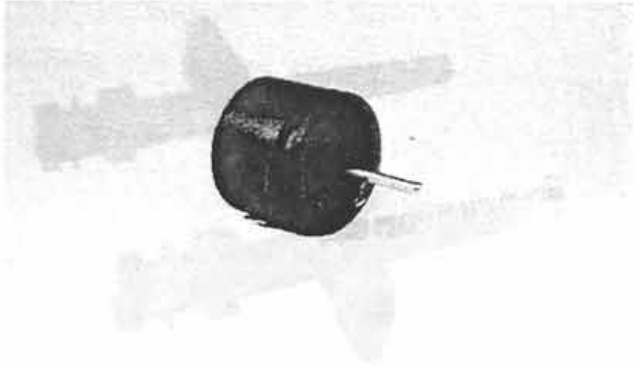

Figure 11:
3. Examine the piston assembly, and replace as an assembly if it is pitted in the O-ring groove area (Fig. 11), out of round, if the retractor pin is scored or bent or if the retractor spring in the piston is broken.